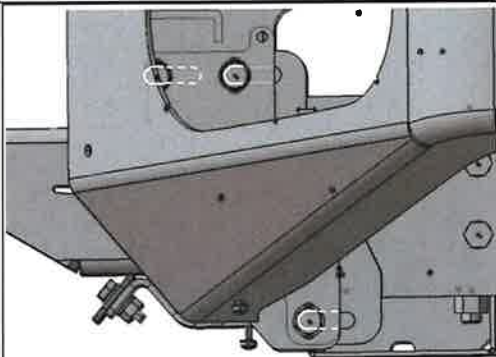

Figure 58: Install bull bar.
- Position the bar so that it sits as far forward in the mounts' slots as possible, as shown in figure 58.